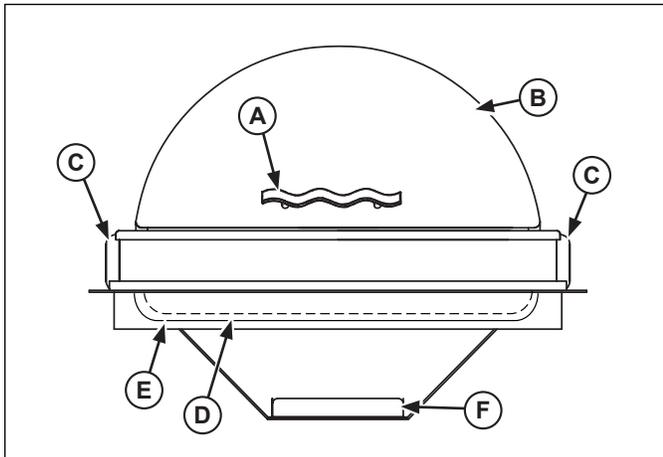

Figure 7. Drop-In Chafer Features and Controls.
- (A) COVER HANDLE. Used to open and close the cover.
- (B) COVER. Covers the food/beverage product.
- (C) HINGE. Allows the cover to rotate.
- (D) FOOD PAN. Holds the food product.
- (E) WATER PAN. Holds the water.
- (F) HEATER/FUEL TRAY. Holds the electric chafer heater.
1. Remove the food pan (D) from the water pan (E). See Figures 7.
2. Pour about 2 quarts (2 L) of clean fresh water into the water pan (E).